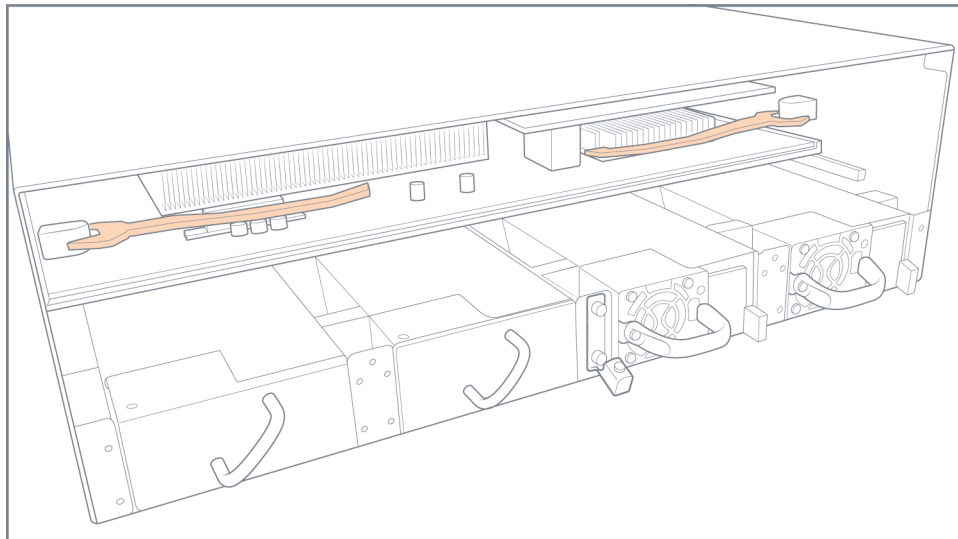

Figure 4-17: Control Card Location
3. Remove the fan tray as described in Removing a Fan Tray on page 79. The control card is located behind the fan tray as shown in Figure 4-17 on page 83.